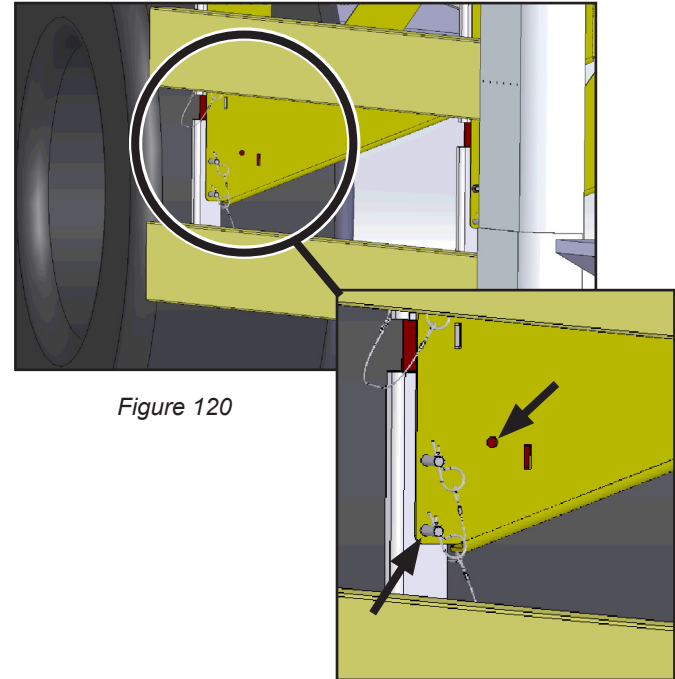

Figure 120
1. To rotate the bottom rail of the lateral protection device up for increased ground clearance, hold onto the rail assembly and remove the **lower pin** from both sides of the bottom rail (Figure 120).
2. Rotate the bottom rail assembly up until the open holes on the LPD rail and the LPD gusset align (Figure 120).